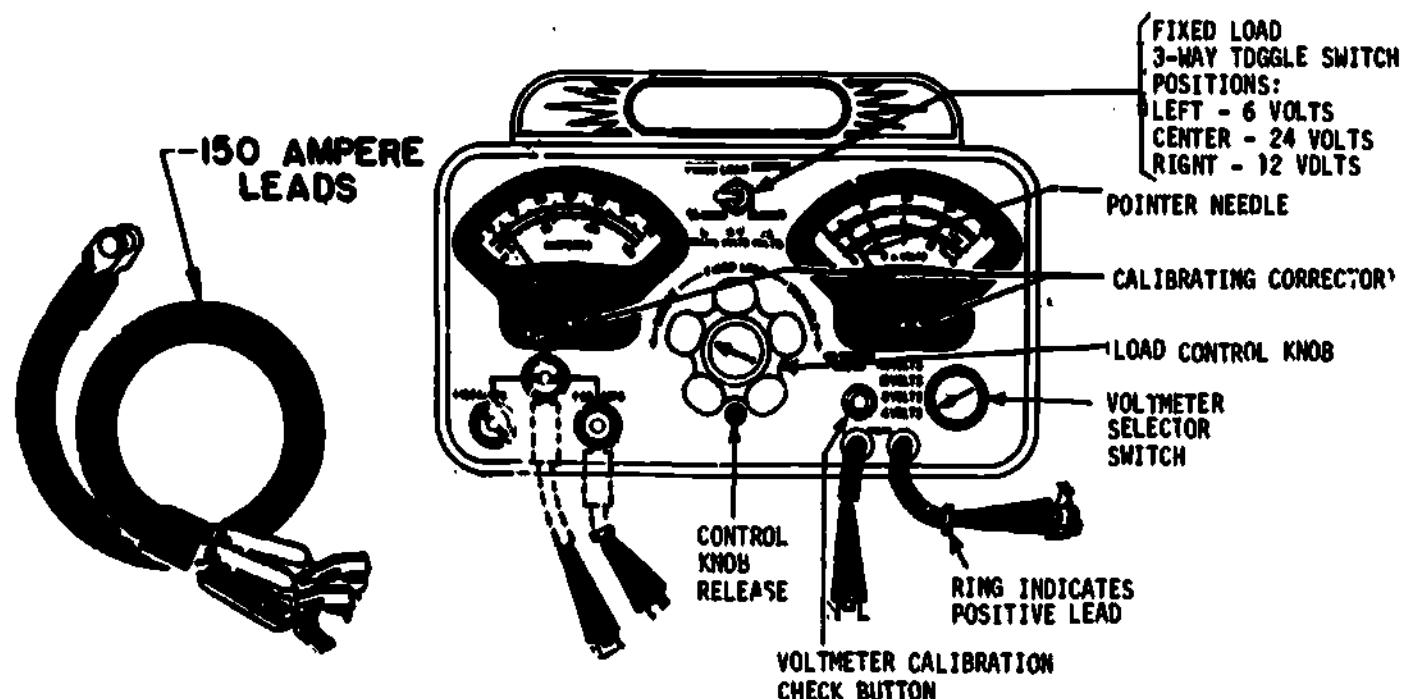

Fig 1-13. Volts-ampere tester.
- (3) Volts-ampere tester (fig 1-13). The volts-ampere tester looks like the battery starter tester and care must be taken to be sure the correct set is being used. Both sets have a scale for volt readings and a scale for the ampere readings. The volts-ampere tester is used for testing the starting motor amperage draw and charging circuit and primary circuit resistance.